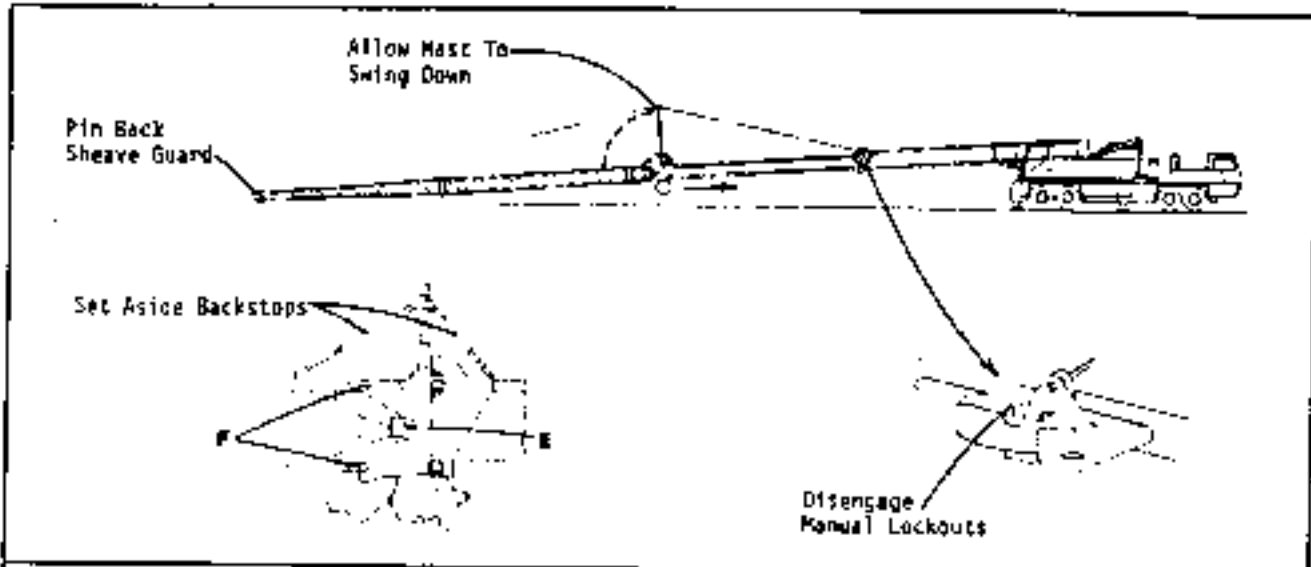

Fig. 4-54
- Step 4: Retract boom tip section slowly, allowing jib mast to lower onto the jib long straight extension. Refer to Fig. 4-54.
- up or down slightly and align lugs at "F" and install pins and keepers. Leave pins in place at "E". Refer to Fig. 4-54.